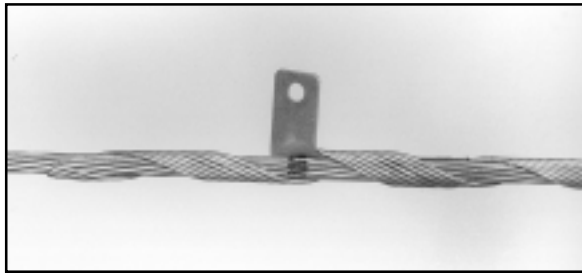
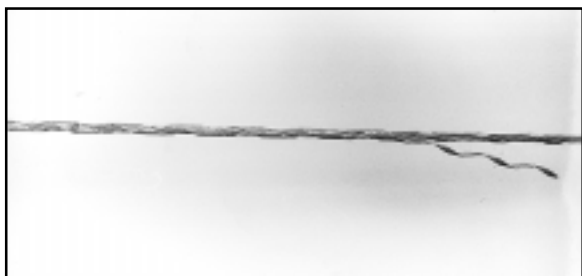

FIGURE 9 - WRAP SECOND SUBSET FROM CURRENT TRANSFER TAB
FIGURE 10 - WRAP LONG PORTION OF SECOND SUBSET FROM CURRENT TRANSFER TAB
4.08 Begin at the Current Transfer Tab and wrap the short section of the subset nearest the structure completely onto the OPGW. (Figure 9) Then continue to wrap the long portion of the subset for four to six pitch lengths, leaving the end loose. (Figure 10)